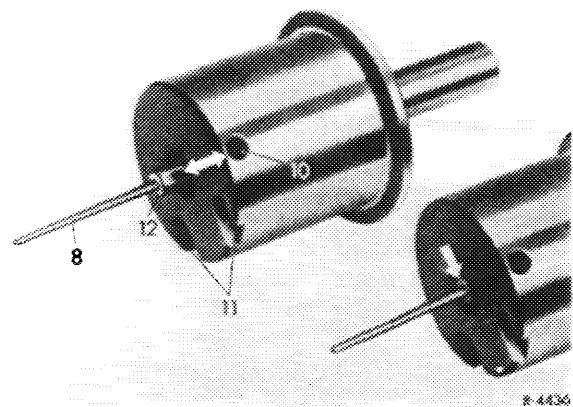

Fig. 07-4/3a
5 Slide nozzle needle (8) into air piston bore to such an extent that the cylindrical part of the nozzle needle is exactly flush with the air piston bottom (see arrow in Fig. 07-4/3).
Mount movable nozzle needle (8), if applied, with milled surface facing fastening screw hole (10) and plastic plate (12) just flush with bottom of air piston (Fig. 07-4/3a)